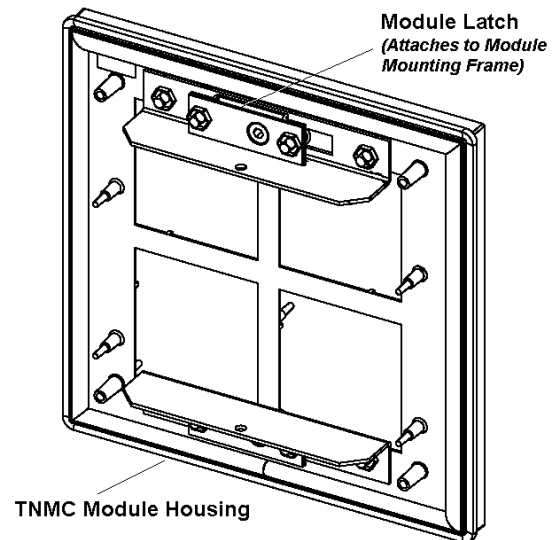

Figure 20: TNMC Module (Rear View)
2. Unlatch the latch fasteners, illustrated in **Figure 20**, by turning them a quarter-turn using a $\frac{7}{32}$ " nut driver. Turn the top latch clockwise and the bottom latch counterclockwise. Carefully remove the module and detach the ribbon cables. Label the cables, indicating which cable was removed from which connector; the labeling will be helpful when you replace the board.